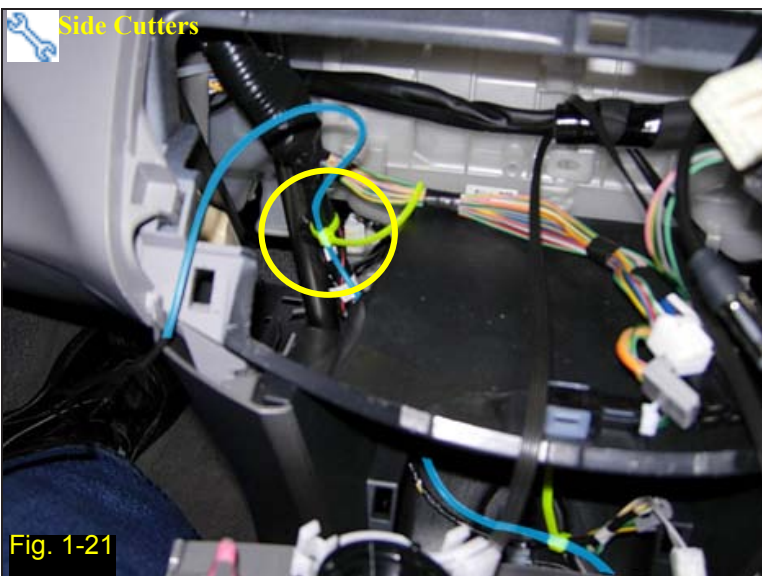

Fig. 1-22
6. Secure the pigtail to the existing wire loom removed from the lower switch panel (Fig. 1-22).